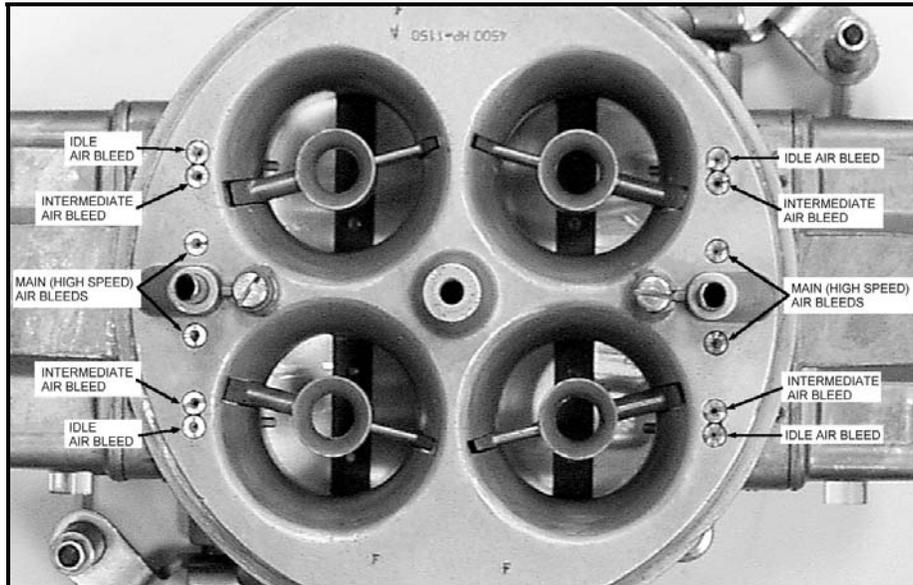

Figure 10
**WARNING!** Air bleed sizes should not be adjusted more than six (6) sizes in any one direction from the original air bleeds as shipped from Holley. Air bleed adjustment beyond six (6) sizes could result in a lean engine causing severe engine damage, property damage, serious injury, and/or death.
**NOTE:** See Figure 10 for air bleed locations and identification. It is recommended that all jet sizes be documented before any tuning of the air bleeds or main jets is started. Below is a chart for recording the main jet and air bleed sizes for your 4500 HP Dominator carburetor as shipped from Holley. Should you adjust the air bleed size or main jet size, this chart will allow the tuner to return the carburetor to the original jetting. Please place this information in a safe place along with any other documentation for your carburetor.